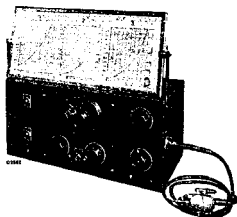

Fig. 1.
1. Service oscillator type 2880F (see Fig. 1).
4. Insulated trimming key 6 mm.